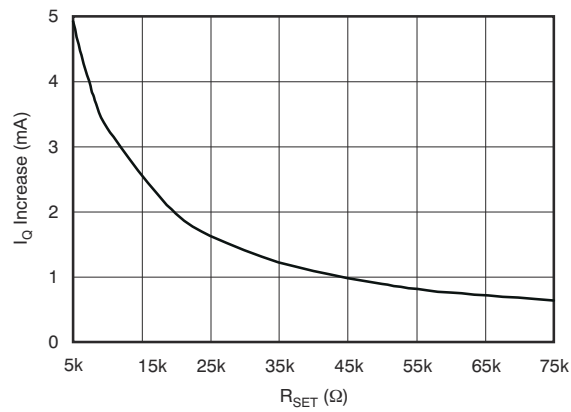

图 6-33. Quiescent Current Increase vs R_{SET}
(1) See 节 6.6.
(2) Under safe operating conditions; see also 节 8.1.4.
(3) Minimum current limit is 0.4A; see also 节 7.3.1.
(4) Quiescent current increases when the current limit is increased (see also 图 6-33).
(5) R_{SET} (current limit) ranges from $55k\Omega$ ($I_{OUT} = 400mA$) to $10k\Omega$ ($I_{OUT} = 1.6A$ typical); see also 节 7.3.1.
(6) Transient load transition time must be $\geq 200ns$.
(7) See also 节 7.3.2.
(8) When sourcing, the V_{DIG} supply must be able to supply the current.
(9) Characterized, but not production tested.
(10) Power-supply sequencing requirements must be observed. See 节 8.3 for more information.